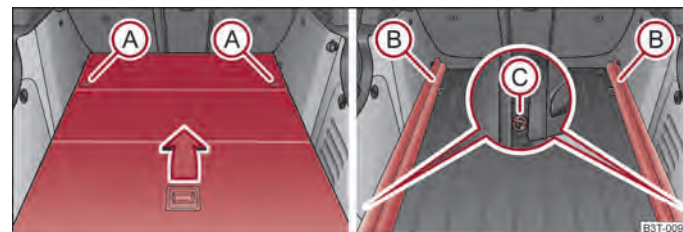

Fig. 74 Luggage compartment: Remove variable loading floor/remove carrier rails
- Unlock the variable loading floor by turning the safety eyes (A) ⇒ fig. 74 to the left by around 90°.
- Unlock the carrier rails (B) by turning the arbor-mounted fixing eyes (C) to the right by approx. 90°.